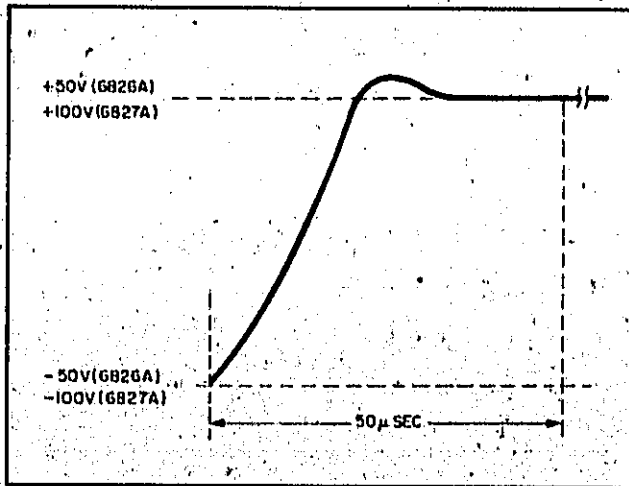

Figure 5-7. Typical Programming Speed Waveforms
e. Adjust oscilloscope to observe rise time of one squarewave. The waveshape should be within the tolerances shown on Figure 5-7 (output should change from maximum rated negative value to maximum rated positive value in less than 50 μ sec).